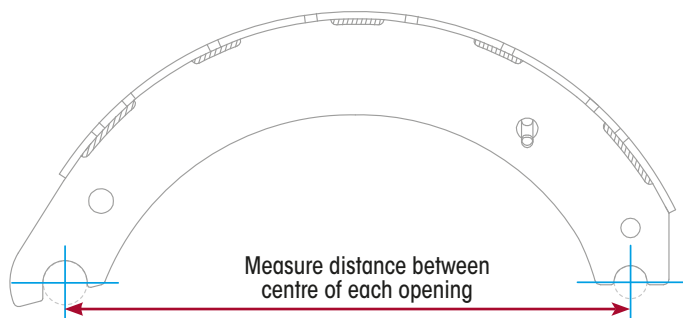

Figure 56: Checking Brake Shoe Spread
3. Check brake shoe for spread. Measure centres between anchor and roller hole centres. Replace shoes if the measurement is greater than specification. Refer Table 5 and Figure 56.